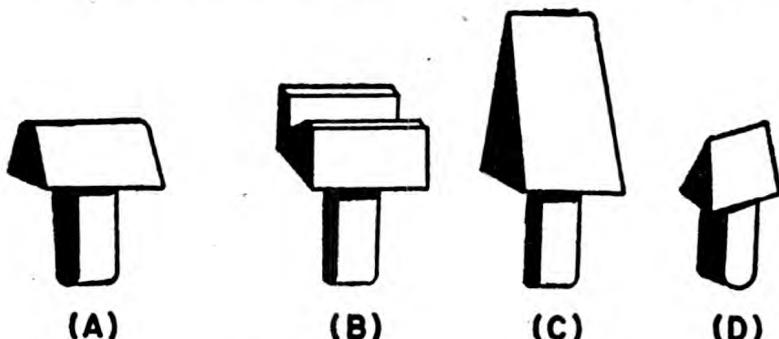

Figure 85.—Anvil tools.
The drawings in figure 85 which look like rural mail boxes, or bird houses, show a BOTTOM FULLER, (A), a BOTTOM SWAGE (B), a HOT HARDIE (C), and a COLD HARDIE (D). The bottom fuller, like the top fuller described earlier, is used for spreading or stretching metal. The shank of the fuller fits into the hardie hole. Bottom swages are often made with two or three grooves of different sizes in the same block, although the one shown in drawing (B) has only one groove. The hot hardie and cold hardie, shown in (C) and (D), correspond in shape to the hot and cold cutter types of set hammer heads and are used for the same purposes.